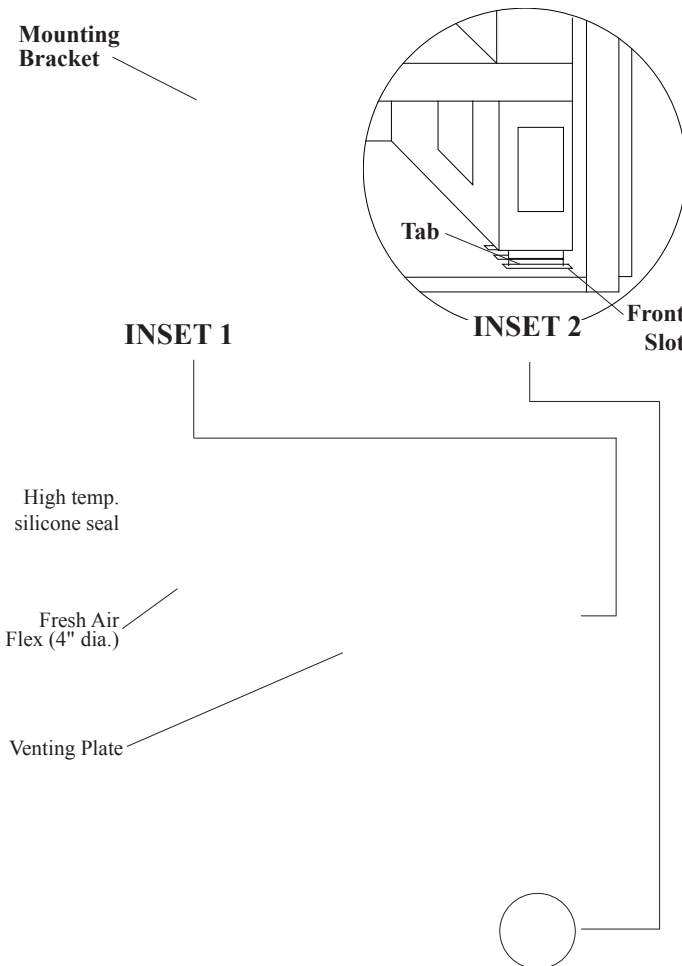

Figure 25. ME34-DV-2 insert.
2. Remove the fresh air flex from the collars on the shell. *See Figure 25. Important: Be careful not to damage the fresh air flex during removal or storage.*